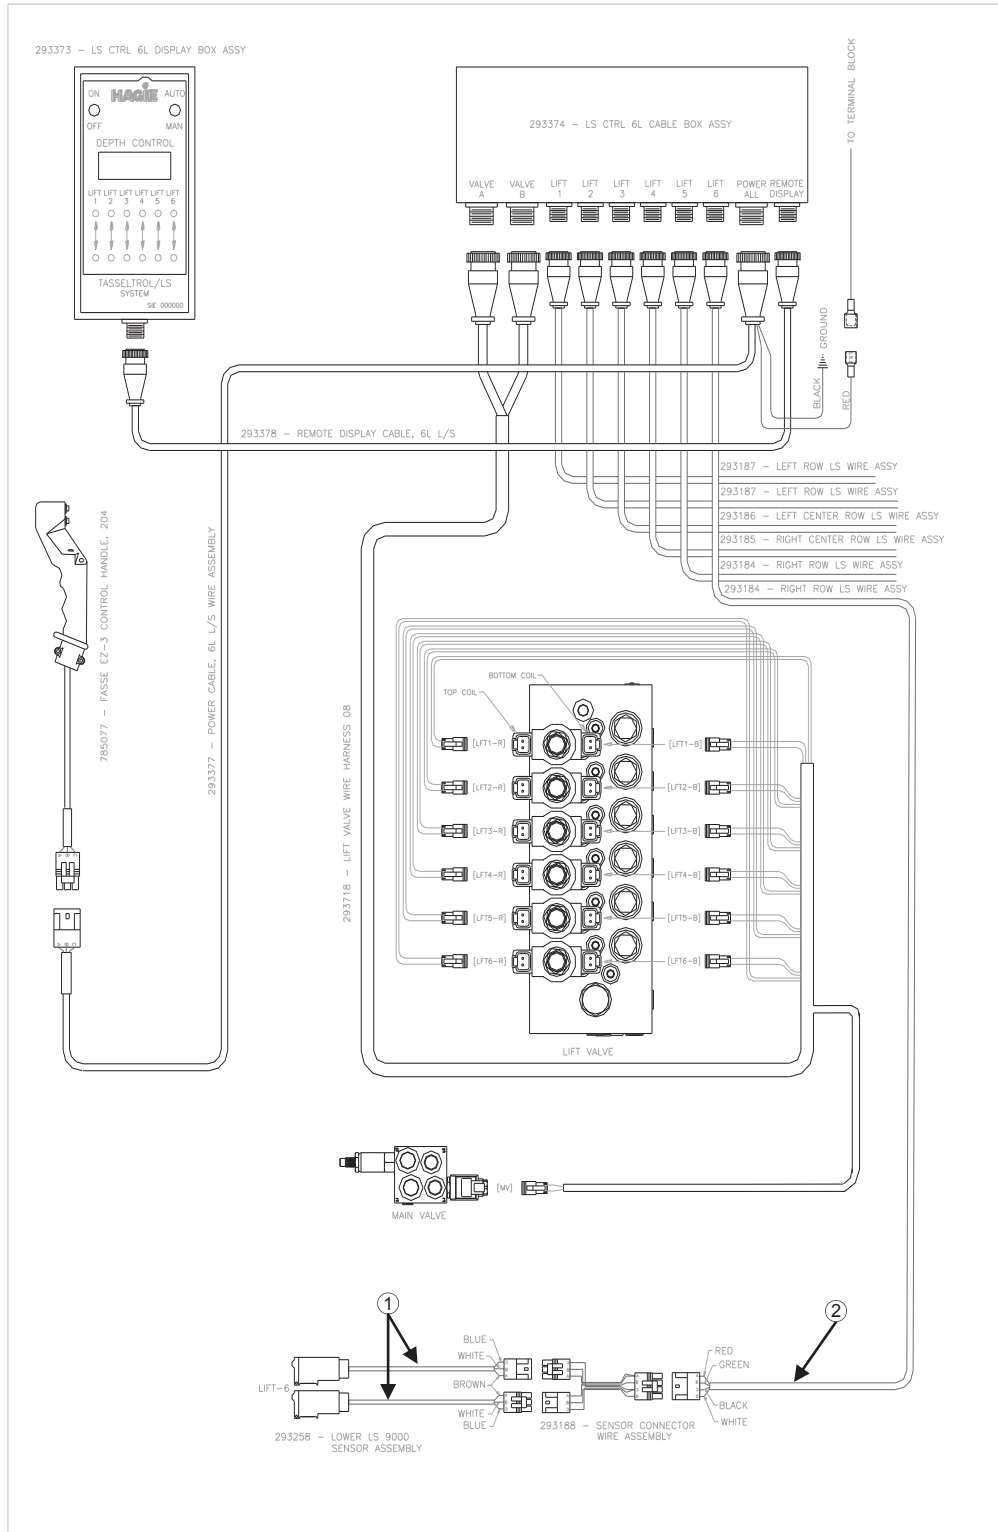

FIG 9.1
No lights at either photo sensor	Faulty connector cable (See page 124, fig. 9.1, item 2)  Faulty RED and/or BLACK wire in connector cable (See page 124, fig. 9.1, item 1)
Lights at lower photo sensor	<p>Faulty GREEN wire in connector cable (See page 124, fig. 9.1, item 2)</p> <p>Photo sensor not in line with reflector, call Hagie Manufacturing Customer Service.</p> <p>Faulty BLUE wire in sensor assembly (See page 124, fig. 9.1, item 1)</p>
No lights at lower photo sensor	<p>Faulty RED and/or BLACK wire in connector cable (See page 124, fig. 9.1, item 2)</p>
Lights at upper photo sensor	Faulty WHITE wire in sensor assembly (See page 124, fig. 9.1, item 1)  Faulty BLUE wire in sensor assembly (See page 124, fig. 9.1, item 1)
No lights at upper photo sensor	Faulty RED and/or BLACK wire in connector cable (See page 124, fig. 9.1, item 2)